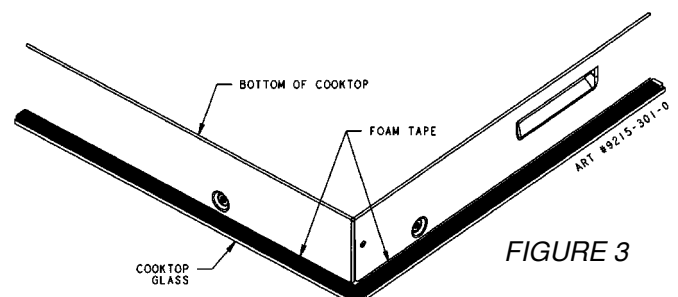

FIGURE 3
4. Optional - Foam Tape Installation - see illustration figure 3. Apply foam tape to cook top as shown in figure 3 if counter top is not flat.